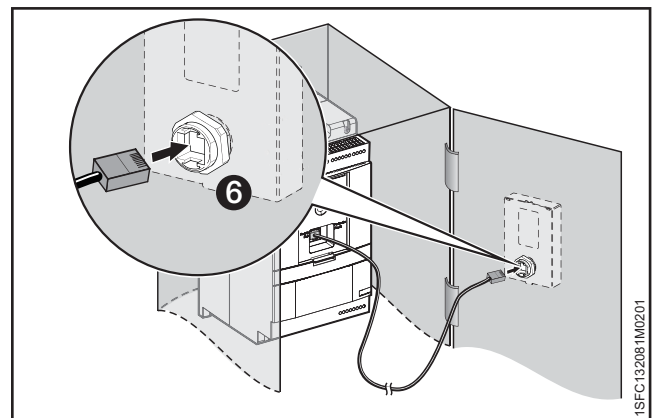

Figure 4.11
4. Connect the other end of the network cable to the network port on the back of the movable HMI, see ❻ in **Figure 4.11**.